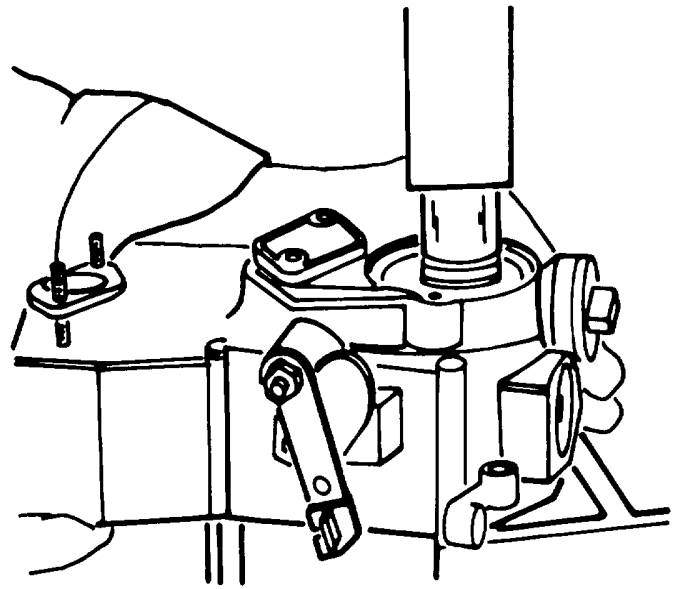

Figure A-24. Camshaft
s. Camshaft. Remove the snap ring holding the cam shaft in the gear cover. Press out the camshaft using the special tool or a socket of the proper diameter. (Figure A-24.)